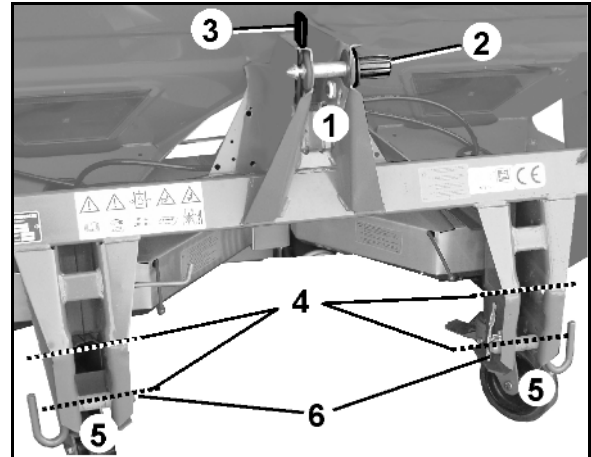

Fig. 37
2. Clean the gearbox input shaft (Fig. 37/1).
4. Remove the locking screw (Fig. 37/6).
5. Turn the PTO shaft guard (Fig. 37/2) into installation position (Fig. 37/7).
7. Release the lock nut (Fig. 37/3) in the connecting fork of the friction clutch (so that the setscrew no longer protrudes beyond the lock nut), unscrew the hexagon socket set-screw (Fig. 37/4) and check that the connecting fork can be easily fitted on the gearbox shaft.
Make sure the feather key (Fig. 37/5) is fully covered!
9. Secure the PTO shaft against axial movement. Firmly tighten the setscrew with a hexagon socket wrench and lock with nut (Fig. 37/3).
2. Unscrew the lock nuts (Fig. 37/3) in the connection fork from the friction clutch. Remove the setscrew (Fig. 37/4).